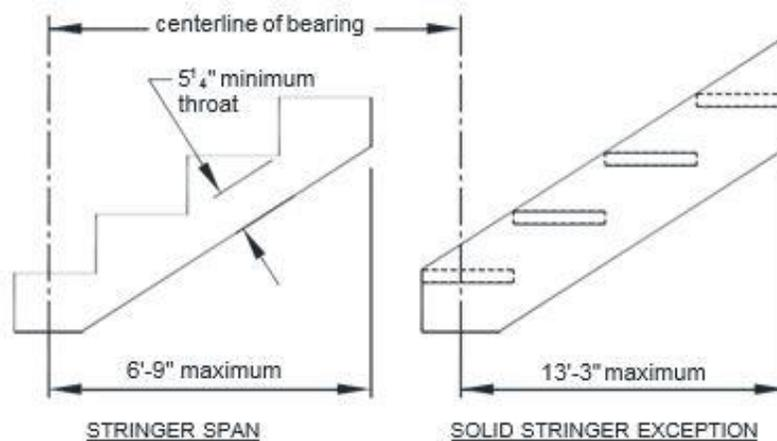

FIGURE 40: MAXIMUM STRINGER SPAN LENGTH
- Stringer span length is measured using the horizontally projected distance between the bearing at each end and shall not exceed the dimensions shown in FIGURE 40.
- SOLID STRINGER EXCEPTION:** Solid stringers of stairways with a width equal to 36 inches shall be permitted to have a span as shown in FIGURE 40.
- Throat size of cut stringers shall not exceed the value shown in FIGURE 40.